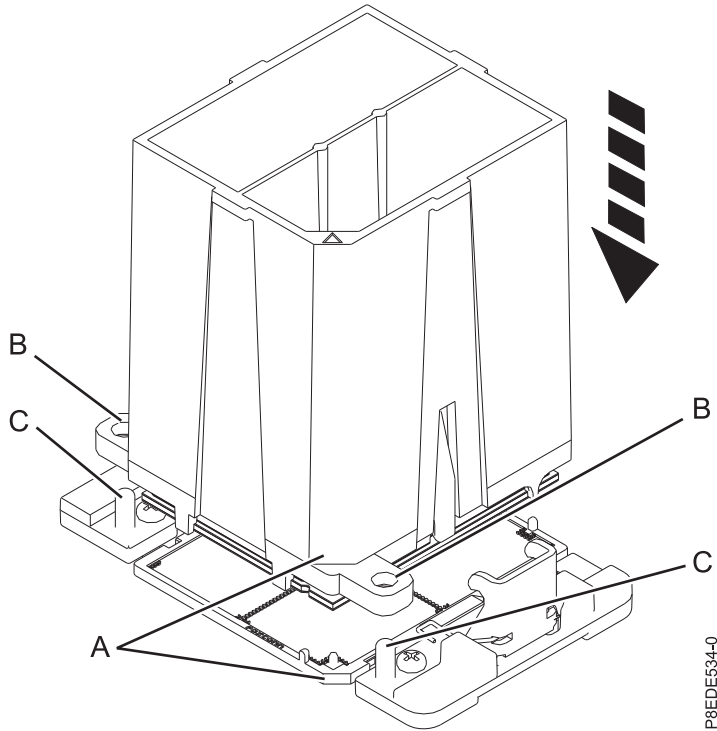

Figure 77. Installing the system processor module
- b. Lower the tool and system processor module onto the socket. Align the beveled corner (A) of the tool with the beveled corner on the socket. Ensure that the two guide pins (C) are inserted into the alignment holes (B) on each side of the tool. Use care to lower the tool evenly without tilting the tool. See Figure 77 on page 69.